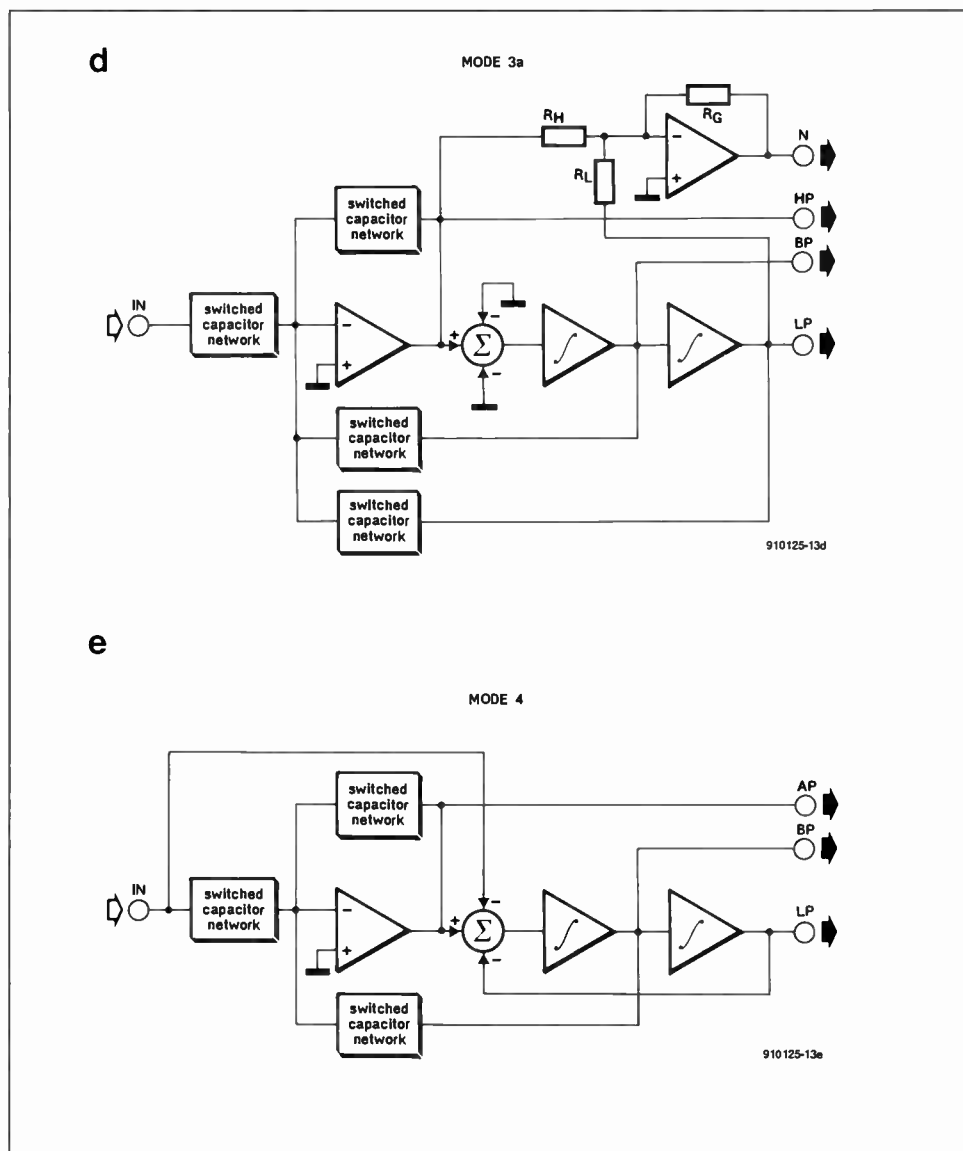

Fig. 3d, 3e.
**Mode 3a** (Fig. 3d) is an extension of Mode 3. The uncommitted opamp in the MAX261 and MAX262, or an external opamp, is used to create a separate notch output. This is achieved by summing the low-pass and high-pass outputs. Mode 3a is particularly suited to creating elliptical filters (with poles and nulls).